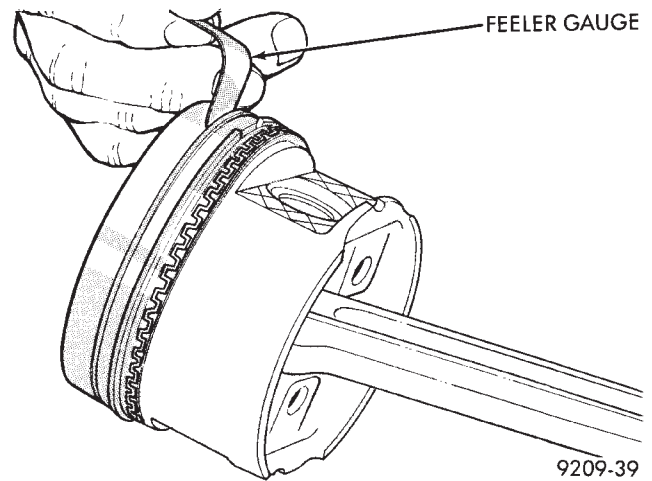

Fig. 10 Measuring Piston Ring Groove Clearance
- (2) Check piston ring to groove clearance: (Fig. 10). Refer to specification (Fig. 11).